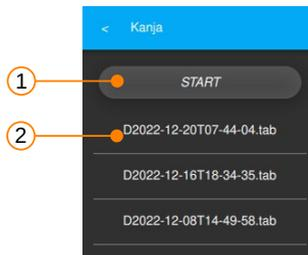

Figure 13: Illustration of the recorder window before start.
Figure 13 shows the situation before the **Start** button is pressed. ① is the **Start/Stop** button and ② is a list of recorder files.